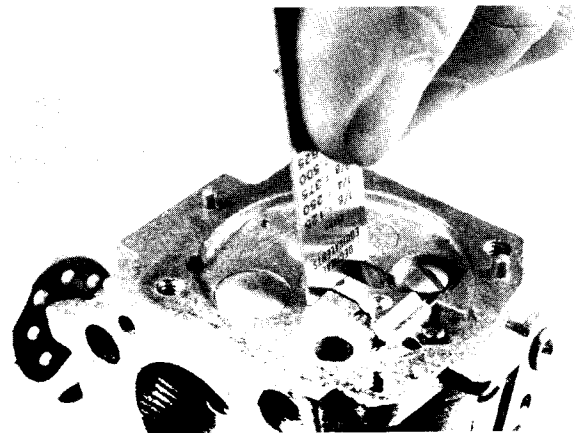

Fig. 70 — Checking Inlet Needle Lever Height
7. Check diaphragm end of lever as shown in Fig. 70. Control lever is properly set when flush with housing as shown. If lever is not correct bend lever.